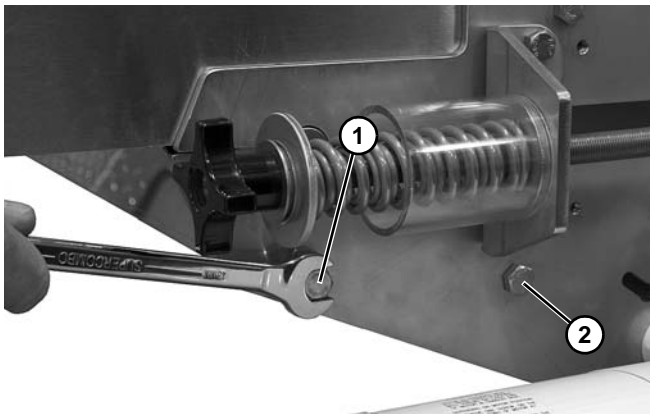

Figure 107
3. Remove screw (Figure 107, item 1) from each side of the center drive from the idler guard assembly.
4. Loosen screw (Figure 107, item 2) on each side of the center drive.